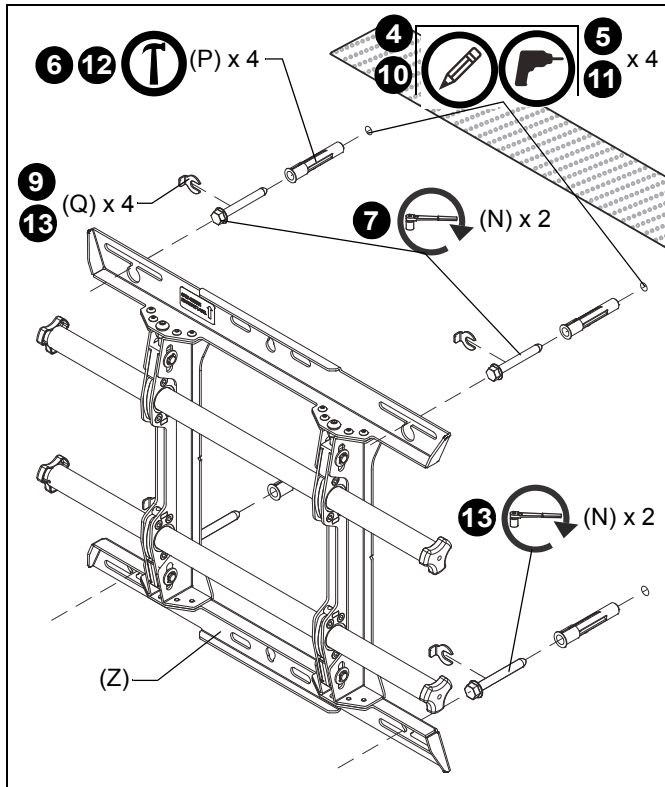

Figure 3
4. Using a level, mark the wall through both upper mounting slots. (See Figure 3)
6. Install an anchor (P) into each pilot hole using a hammer, making sure that the anchor is flush with the wall.
7. Partially install two 5/16 x 2-1/2" flanged lag bolts (N) into pilot holes but do not tighten to wall.
8. Hang mount (Z), aligning upper mounting slots over lag bolts and adjust side-to-side for proper location.
9. Place one slotted washer (Q) over each flanged lag bolt. (See Figure 3)
10. Mark the attachment points for the lower mounting slots. (See Figure 3)
11. Drill 3/8" x 3-1/2" (9.5mm x 88.9mm) pilot holes at markings for lower mounting holes. (See Figure 3)
12. Install an anchor (P) into each pilot hole using a hammer, making sure that the anchor is flush with the wall.
13. Use two 5/16 x 2-1/2" flanged lag bolts (N) and two 5/16" slotted washers (Q) to attach the mount to the wall through the lower mounting holes. (See Figure 3)
14. Tighten all lag bolts to secure mount (Z) to wall.